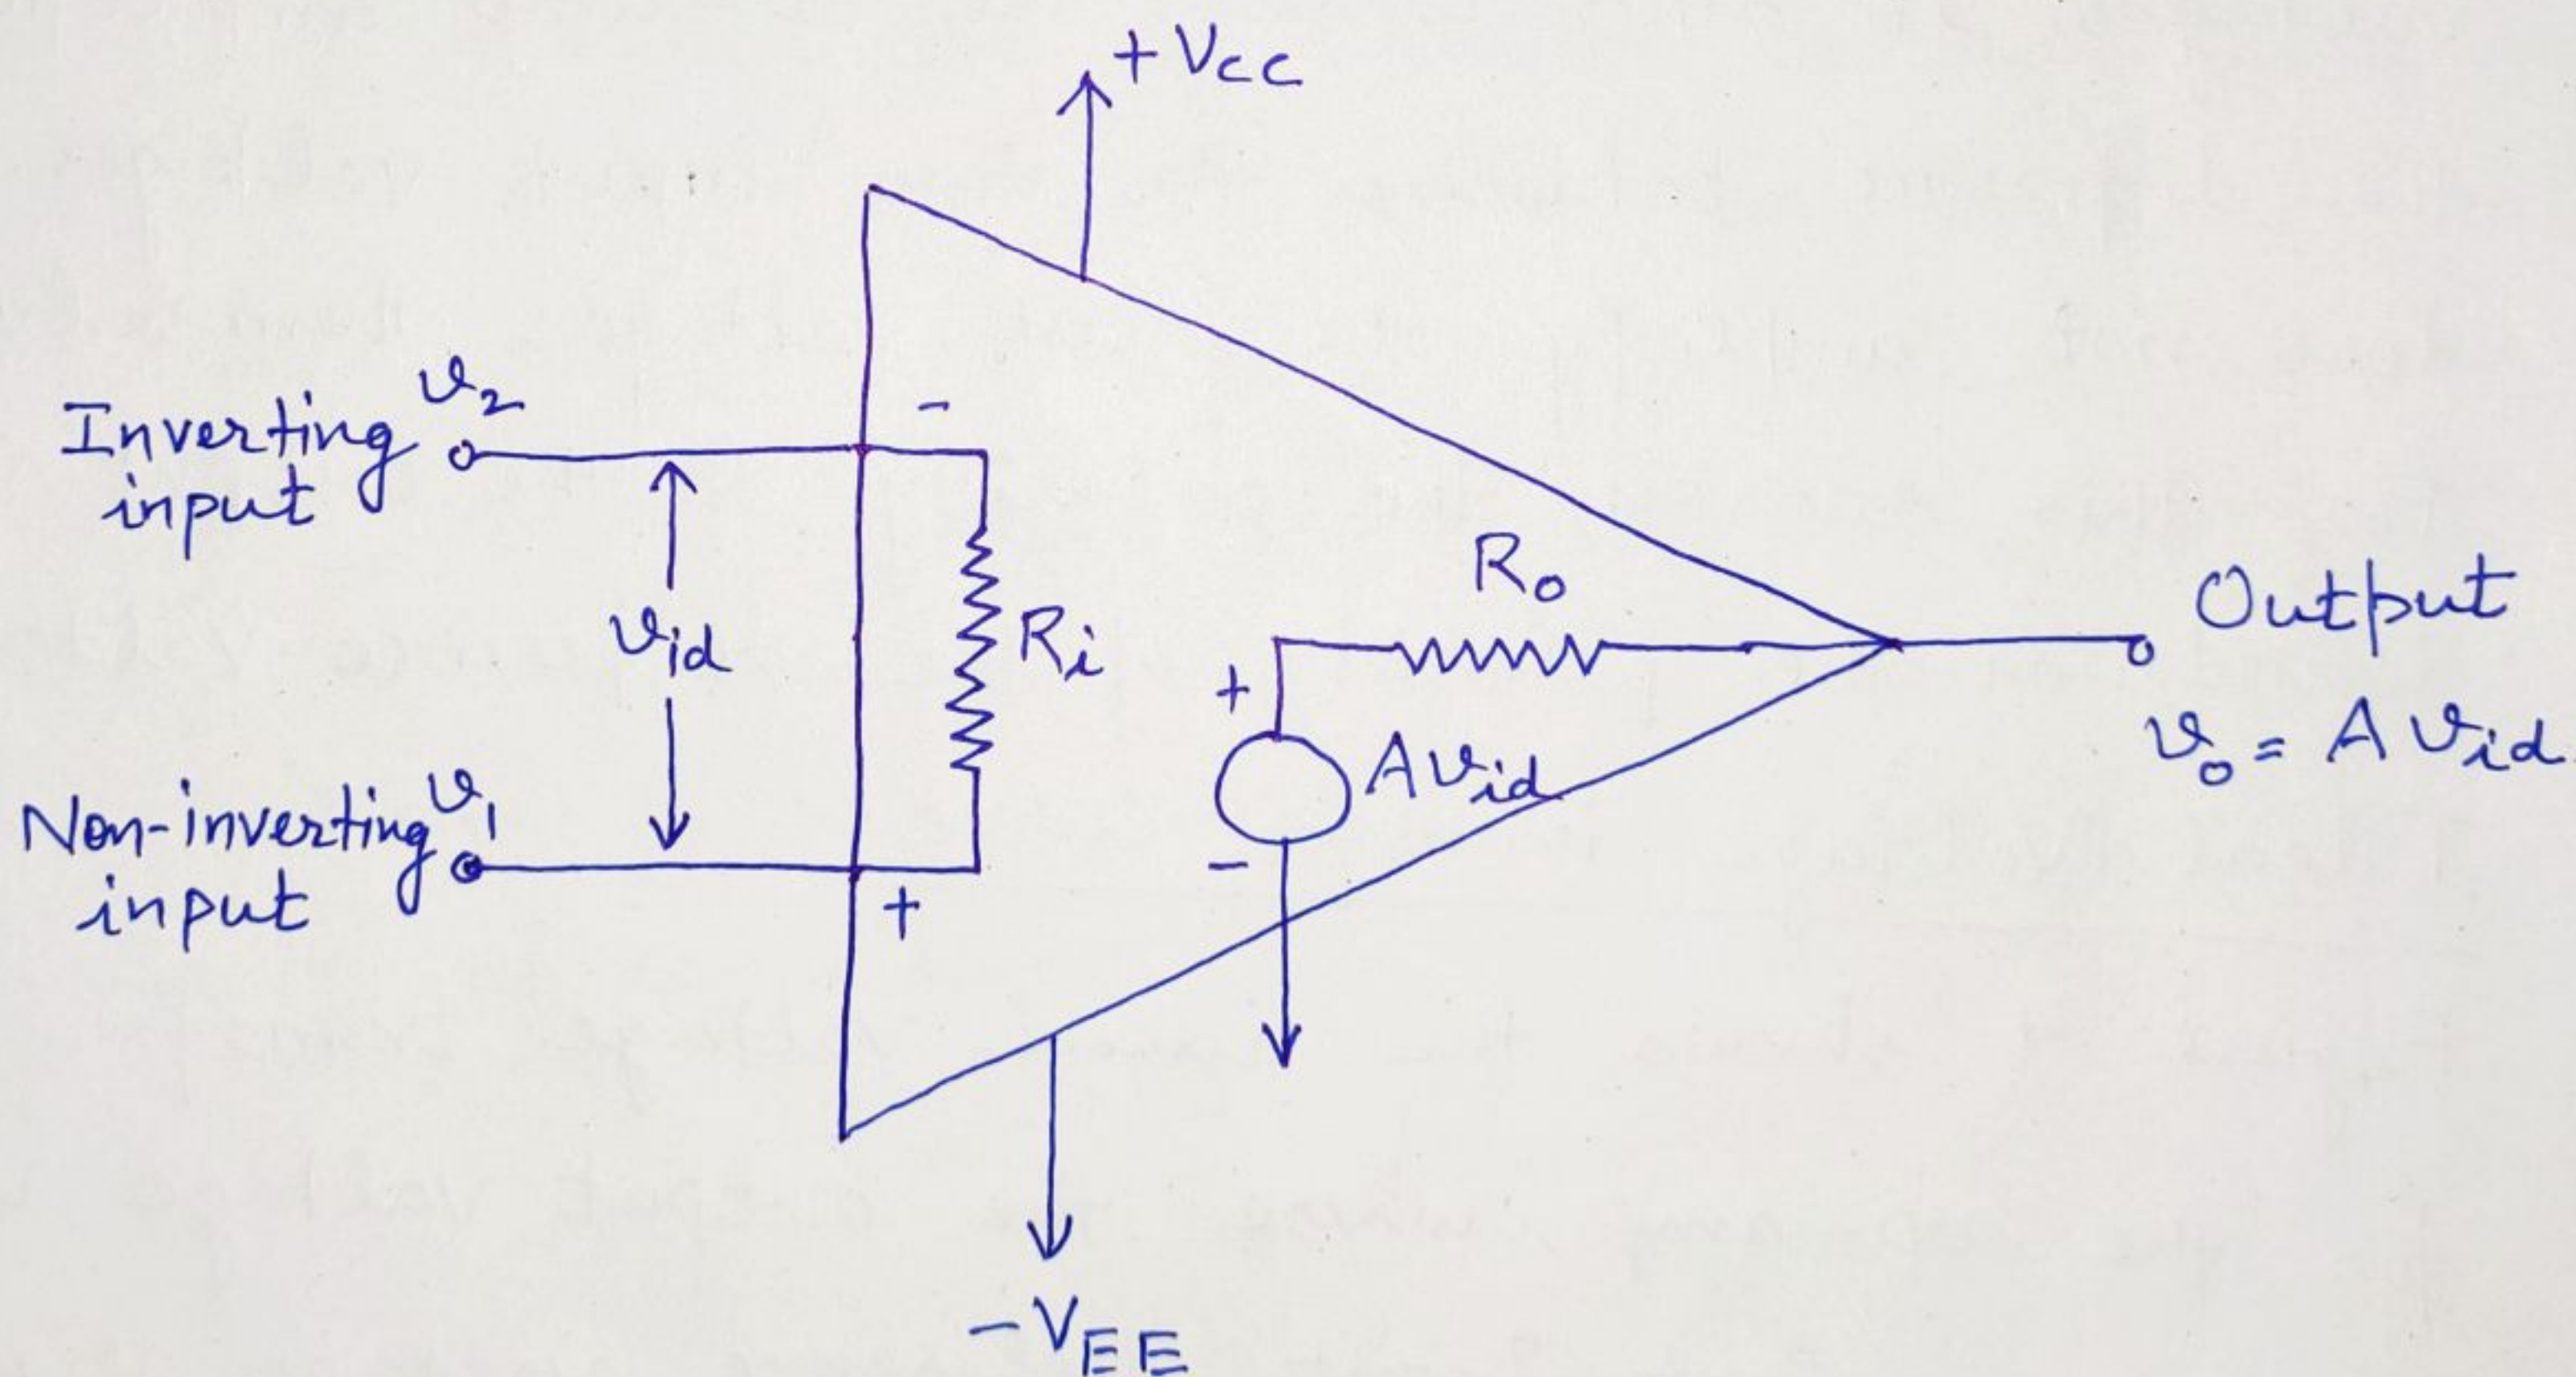

Figure 3. Equivalent circuit of an op-amp.
Figure 3. shows an equivalent circuit of an op-amp.  $A v_{id}$  is an equivalent Thevenin voltage source, and  $R_o$  is the Thevenin equivalent resistance looking back into the output terminal of an op-amp.
For the circuit shown in Figure 3, the output (6) voltage is